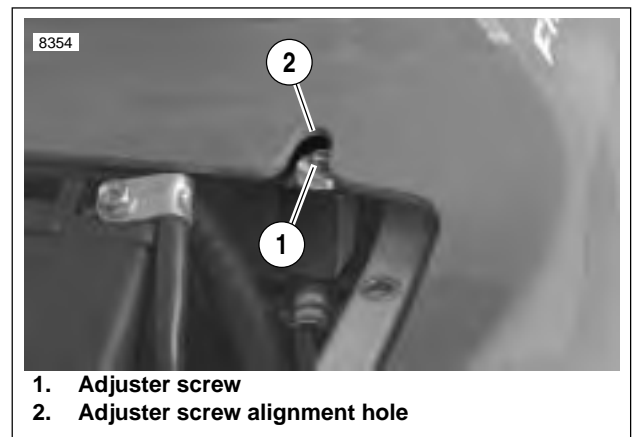

Figure 2-83. Adjuster Screw Alignment
2. Install lower shock mount with fasteners (6, 9) and lower shock mount sleeve (8) and tighten to 15-17 ft-lbs (20.3-23 Nm).
- b. See Figure 2-83. Temporarily place upper body work onto tail section and adjust reservoir placement so dial aligns with bodywork.